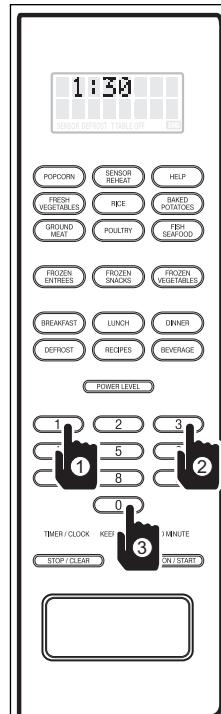

Figure 3-19.
3. Enter the time of day by pressing the numbers in sequence. For example: If setting the time of 1:30, press the number 1 key, then the number 3 key, then the number 0 key and the display will flash "1:30 - PRESS CLOCK" (See Figure 3-19).